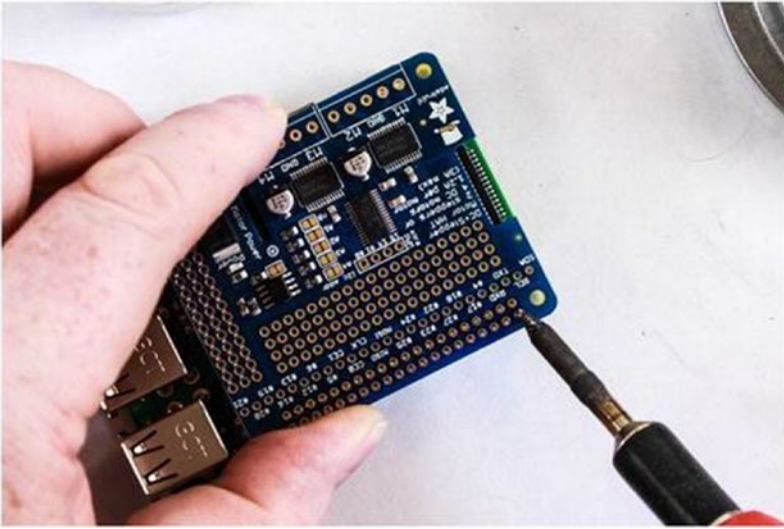

Figure 6-8. *Adjusting the placement and angle of the board*
4. Once the first pin is soldered, heat it up again and adjust the board so that it sits properly (see Figure 6-8). When the solder for the pin cools, it will hold the board at the right angle while you solder the rest of the pins. If you supported the board with a terminal block or something else so that the board is sitting straight, you may be able to skip this step.